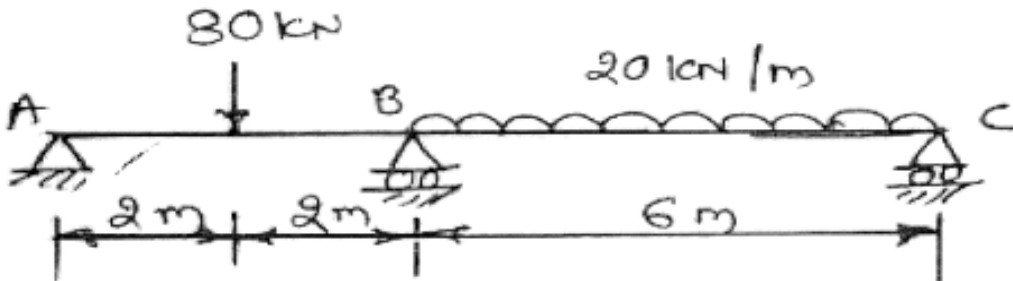

Fig. 2
2. a) Analyze the continuous beam as shown in fig. by slope deflection method and draw SFD and BMD Refer Fig. 2